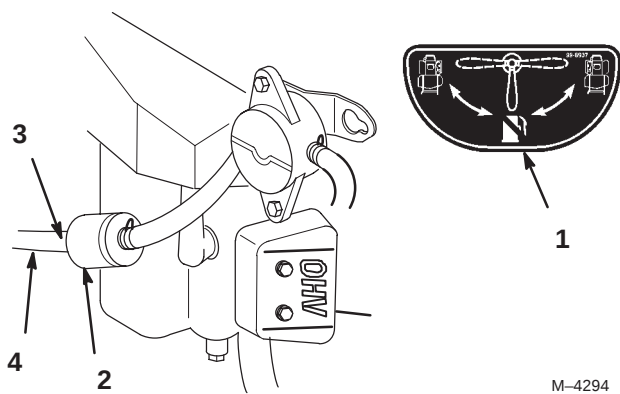

Figure 46
5. Install a new filter and move the hose clamps close to the filter (Fig. 46).
2. Close fuel shut-off valve (Fig. 46).
3. Loosen the hose clamp at the fuel filter and slide it up the fuel line away from the fuel filter (Fig. 46).
4. Pull the fuel line off fuel filter (Fig. 46).
5. Open fuel shut-off valve for left and right tanks. Allow gasoline to drain into a gas can or drain pan. (Fig. 46).
6. Install the fuel line onto the fuel filter. Slide the hose clamp close to the fuel filter to secure the fuel line (Fig. 46).